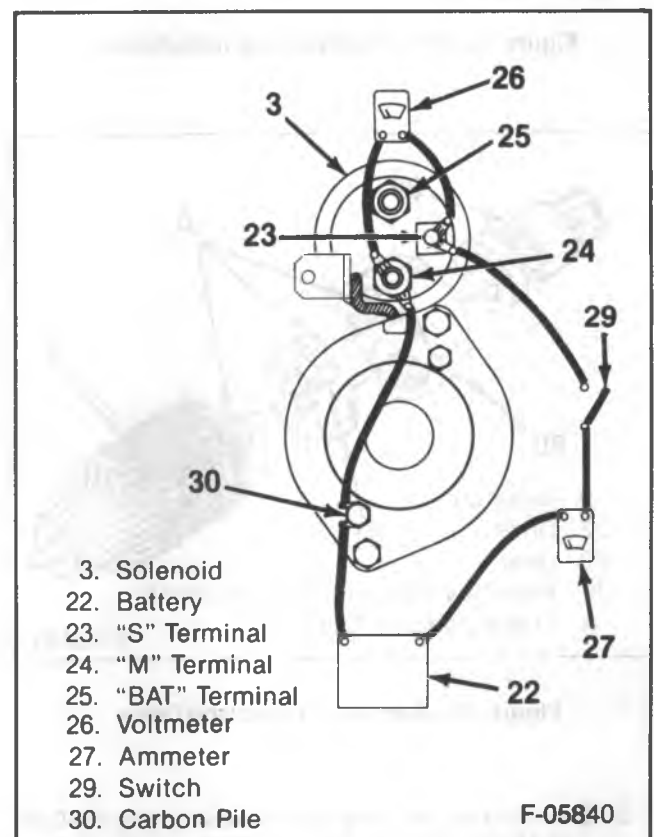

Figure 10—Pull-In Winding Test Connections
- With all the leads disconnected from the solenoid, make the test connections as shown in figure 10.